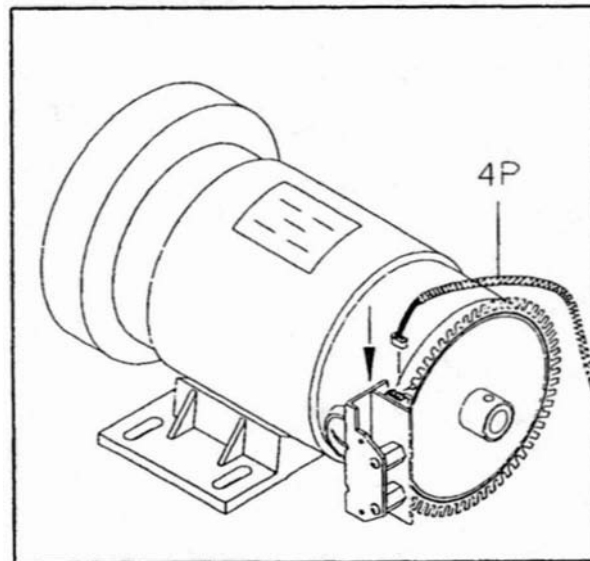

Fig.7
8. Connect 4 pin cable to the optical switch securely. (see Fig. 7)